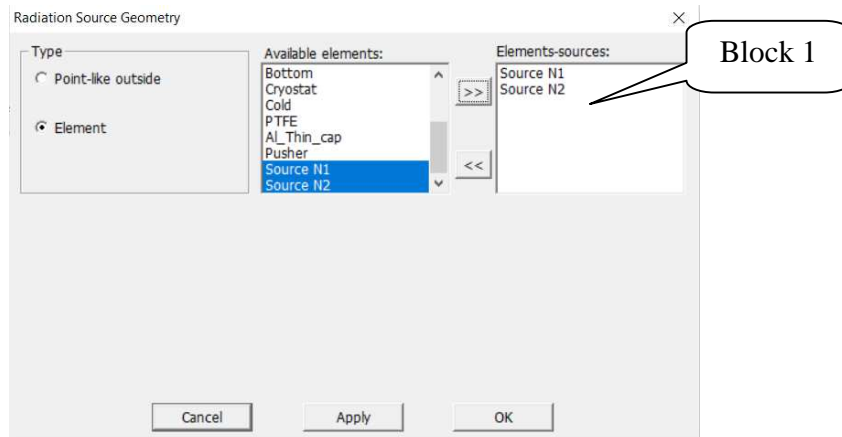

Figure 26.2. Window **Radiation Source Geometry** for type **Element**
- **Element** – shape of the source of any geometric element of the design. In this case, the emitted particles will be isotropically generated in the volume of the selected elements and, consequently, this structural element will be a volumetric source. It should be noted that several elements can be set as a volumetric source, which will be considered by the program as a multi-element figure that constitutes the source (Figure 26.2, block 1).